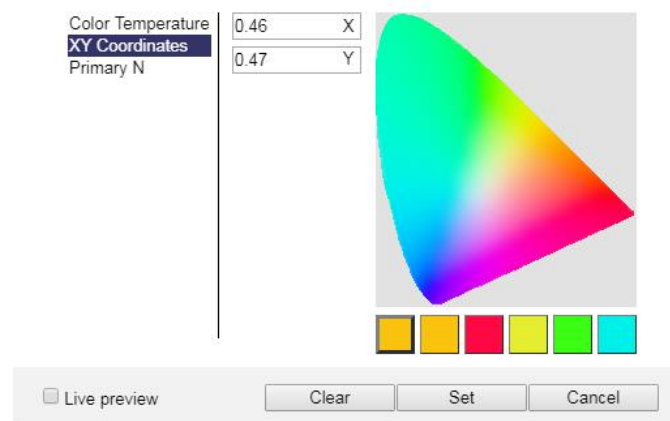

Figure 197: Scene colour selection for devices supporting colour type XY Coordinates.
- **XY Coordinates:** For devices supporting *XY Coordinates* a colour picker dialog as shown in Figure 197 appears when clicking on the lower value. Either manually enter the x and y coordinate of the scene colour within CIE 1931 colour space or pick the colour by clicking in the colour diagram on the left side of the dialog. The last six colour values used are shown in the history below the colour diagram for quick reference.